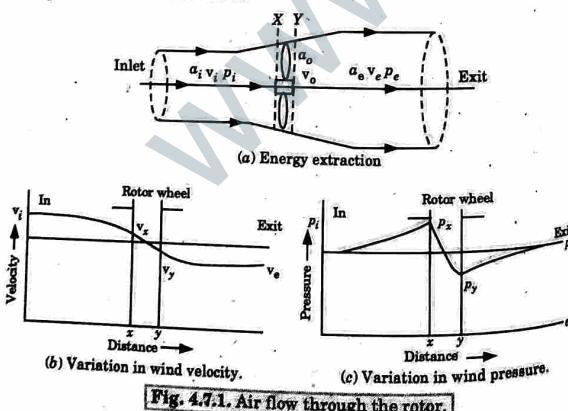

Fig. 4.7.1. Air flow through the rotor.
- Fig. 4.7.1 shows the air flow diagram on rotor, with variation of wind speed at different sections.